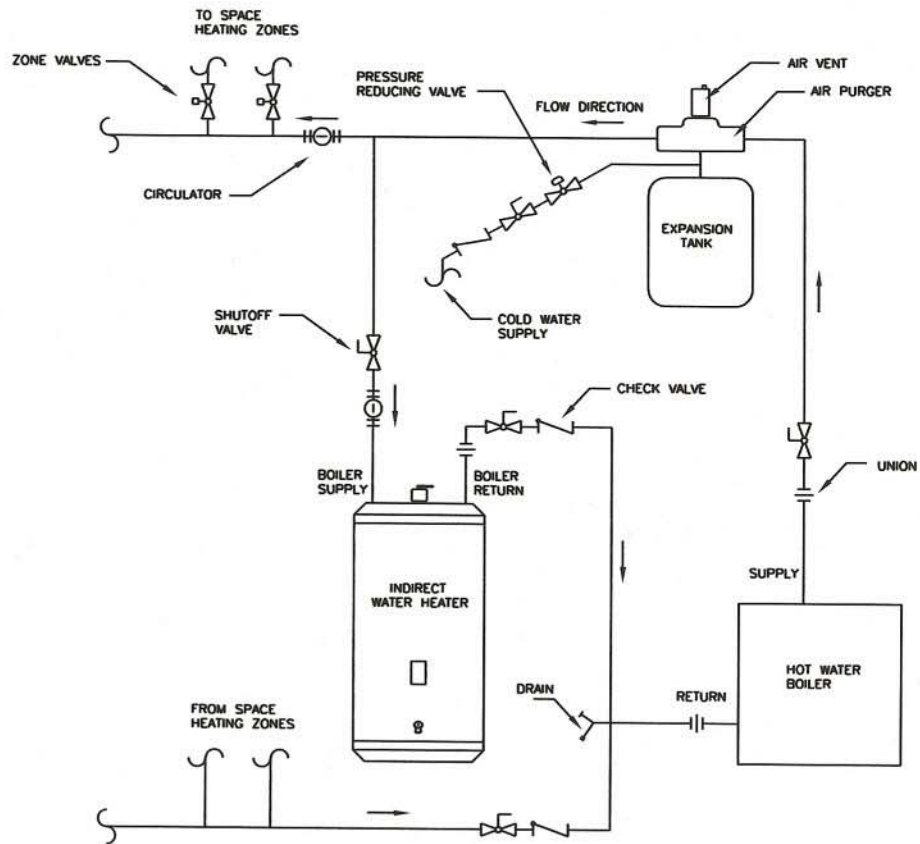

FIGURE 3 - BOILER WATER PIPING WITH ZONE VALVES
1. Determine where the boiler, the space heating, and the water heater connections should be made based on the type of piping system that is either in place, or is to be installed for a new hydronic system installation. See Figure 2, Boiler Water Piping with Zone Circulators, and Figure 3, Boiler Water Piping with Zone Valves.
For a space heating system that uses Zone Valves, refer to Figure 3. The water heater connection labeled “BOILER SUPPLY” should be piped to the boiler supply piping after the air purger and before the space heating circulator. Mount the water heater circulator as close as possible to the water heater, and make sure the flow arrow points toward the water heater. The use of a shut-off valve is recommended for future service convenience.